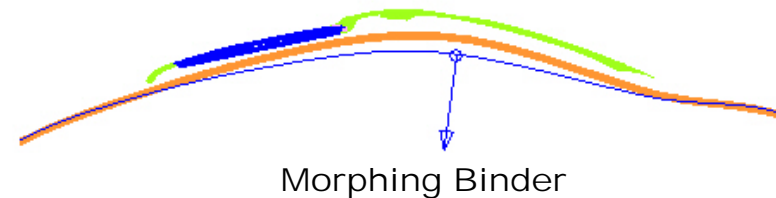

Figure 5.27
29. Select a mid point on the section line (Figure 5.27)